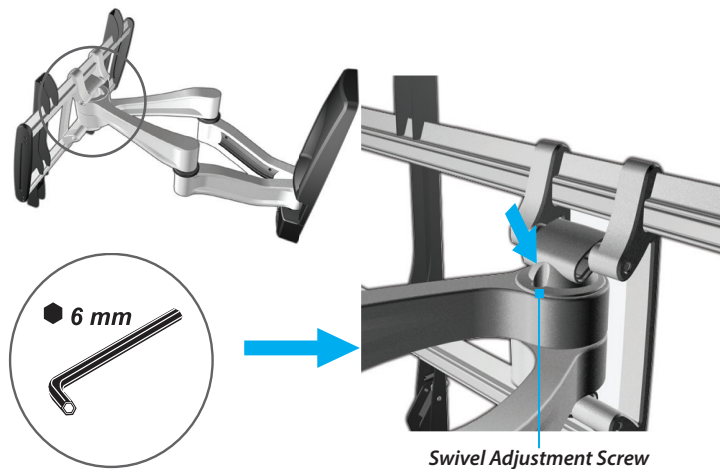

Figure 12
1. **Loosen** or **Tighten** the **Swivel Adjustment Screw** on the **Wall Mount Assembly** using the **6 mm Hex Key**. (Figure 12)